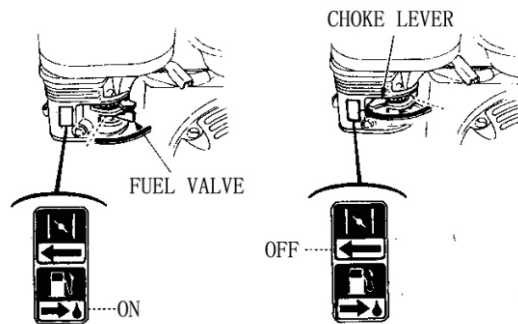

Fig. 7
- (1) Open fuel valve.
- (2) Close choke.
- Do not use choke if engine is warm or the temperature is high. See figure 7.